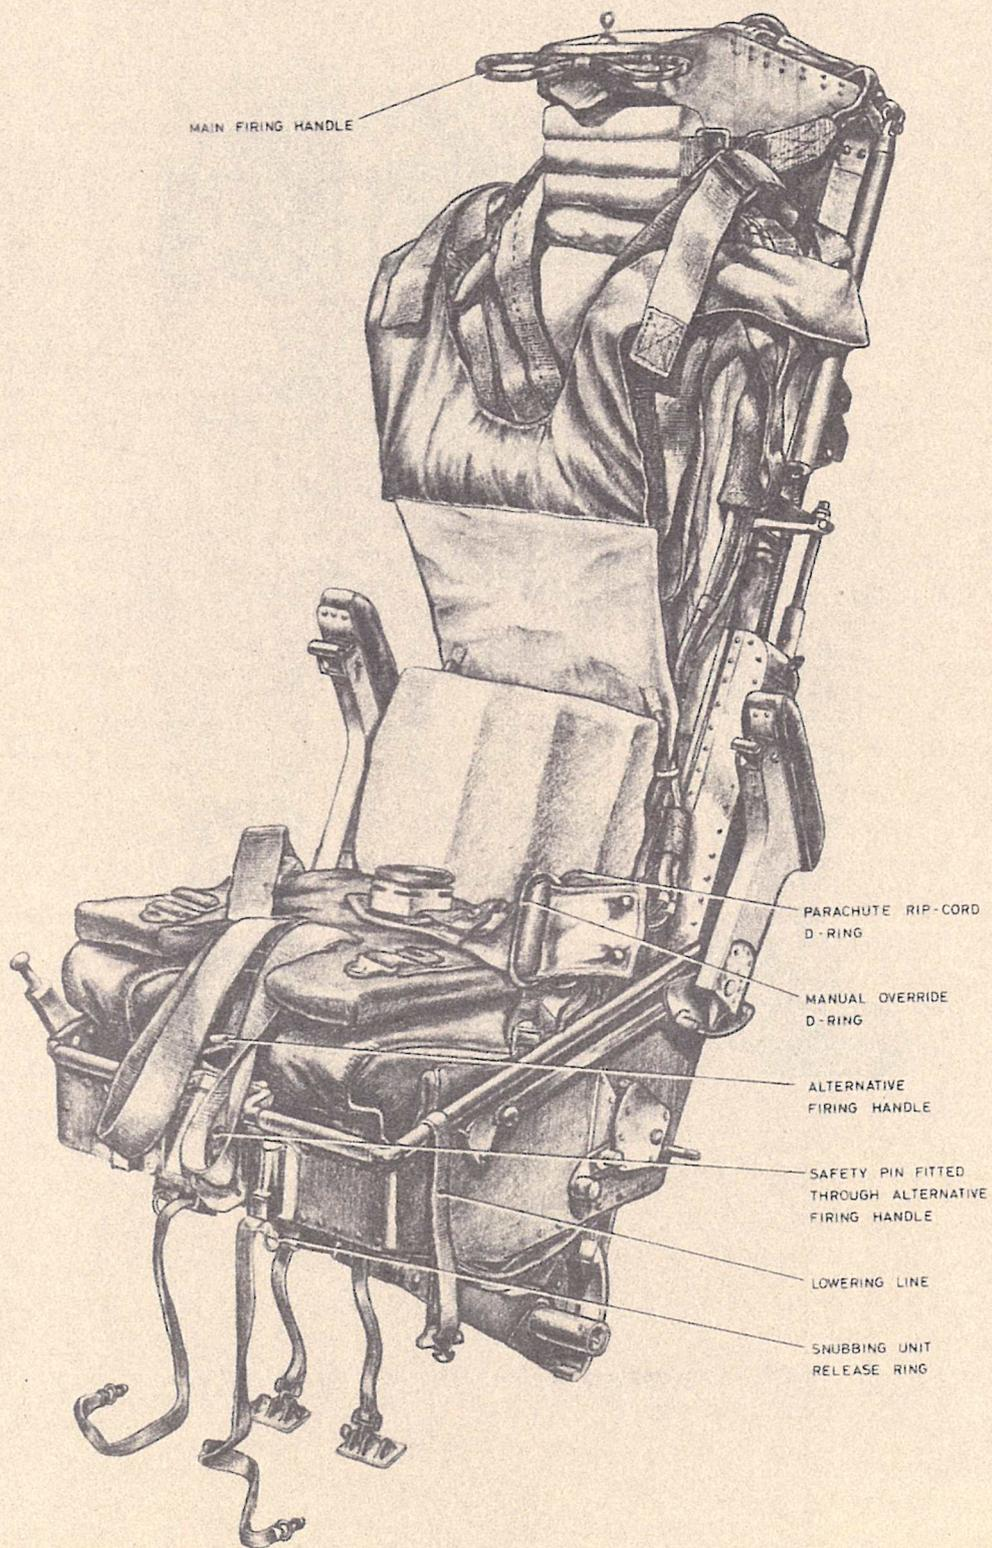

Fig. 8. The seat equipped (2)
27. The strapping-in procedure is as follows; refer to figs. 8, 9 and 10 for detail, as necessary:-